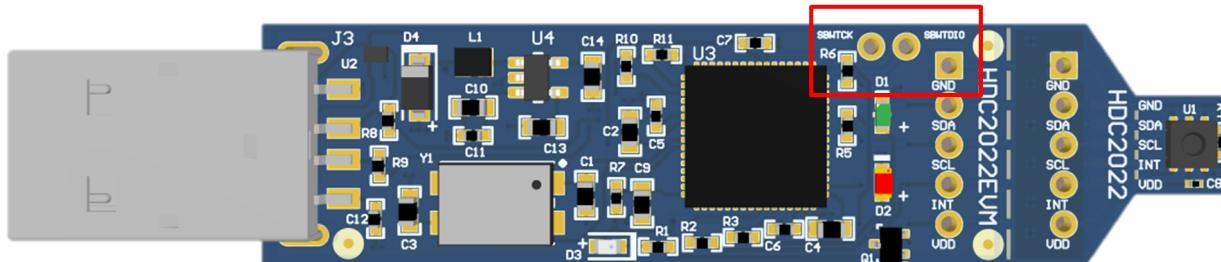

Figure 16. HDC2022EVM Spy-Bi-Wire programming connections
5. Insert the male end of the jumpers through the SWBTCK, SBWTDO, and GND through holes on the HDC2022EVM. These are shown in Figure 16. Make these connections as follows: